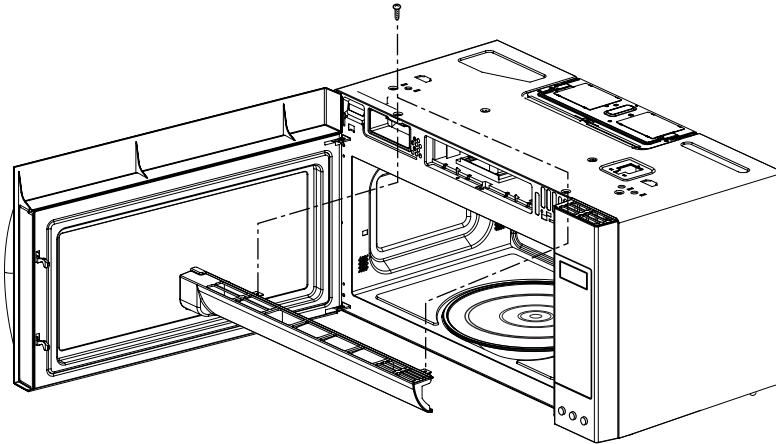

Figure 11
(Figures 11 Through 13b)
- (1) Remove the vent grille by loosening two screws. (Figure 11)
- (2) Remove the outcase. See page 7-6.
- (3) Remove four tap tite screws securing the magnetron to the wave guide.
- (4) Disconnect the leadwire.
- (5) Remove the magnetron VERY CAREFULLY.